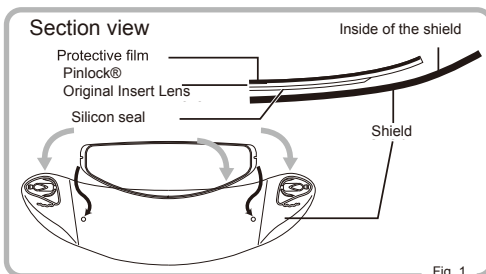

Fig. 1
- ① Apply the silicon seal side of the Pinlock® Original Insert Lens on inside the shield, without peeling off the protective film on the lens. At the time, apply the Pinlock® Original Insert Lens on inside the shield by clicking it into the eccentric pins. (Fig 1 and 2)